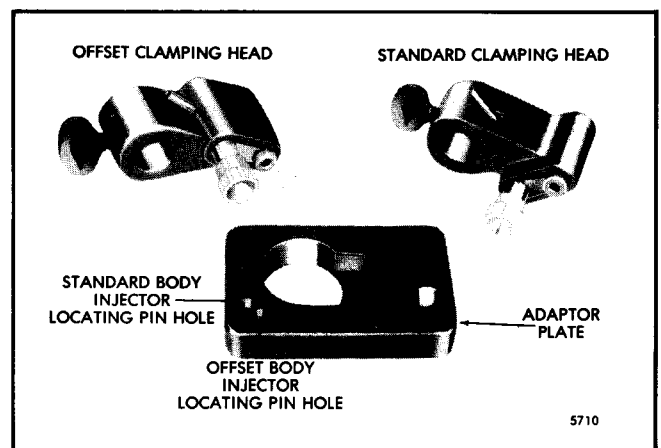
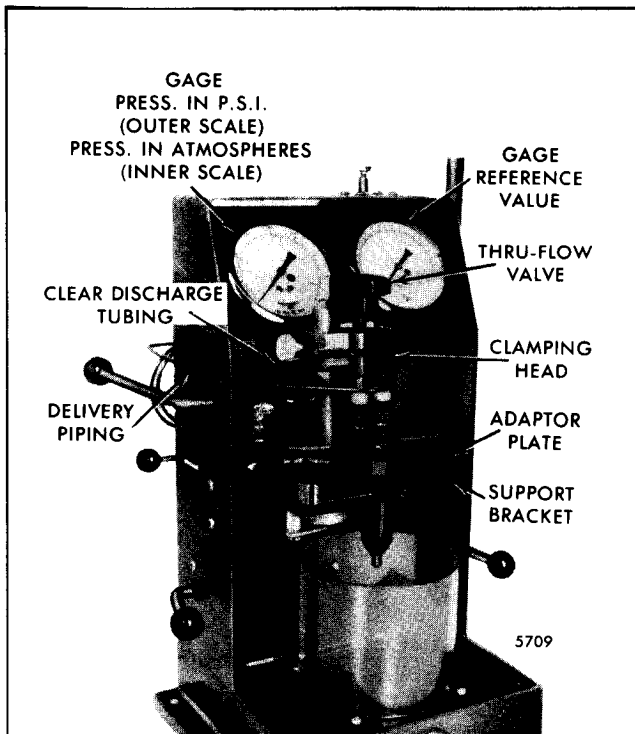

Fig. 11 - Injector Tester J 23010 Clamping Heads
Fig. 12 - Injector Installed in Tester J 23010 with clamping Head
1. Select the proper clamping head (Fig. 11). Position it on the clamping post and tighten the thumb screw into the lower detent position (Fig. 12).
5. Mount the injector through the large hole and insert the injector pin in the proper locating pin hole (Fig. 11).
2. Align the clamping head nylon seals over the injector filter caps (Fig. 12).